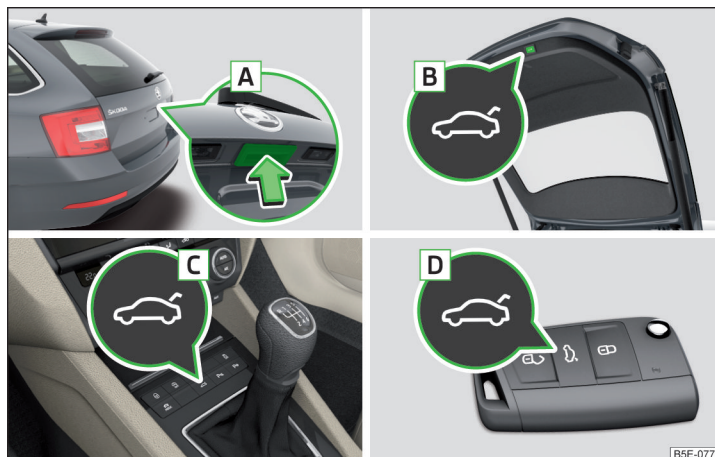

Fig. 59 Lid operation
- ▶ By pressing the handle **A** » Fig. 59.
- ▶ By pressing the button **B** » Fig. 59.
- › Press and hold button **B** » Fig. 59 on page 66 until you hear an acoustic signal.
The lid does not react to an opening signal	Removing a possible obstacle (e.g. snow), re-opening the lid » page 66 Press handle A » Fig. 59 on page 66 and pull the lid upwards